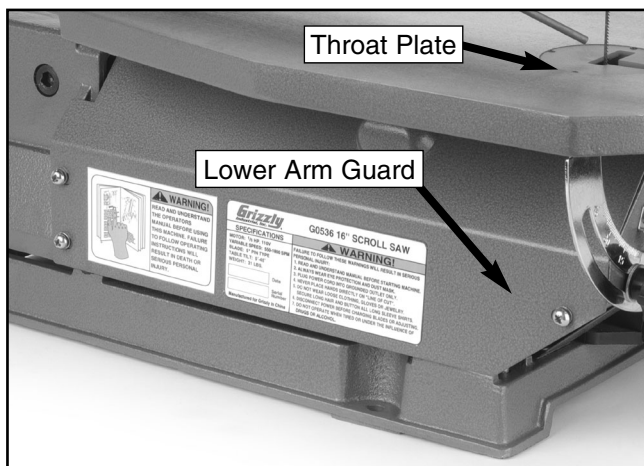

Figure 8. Arm guard screws and throat plate.
2. Remove the throat plate and the lower arm guard shown in **Figure 8**.